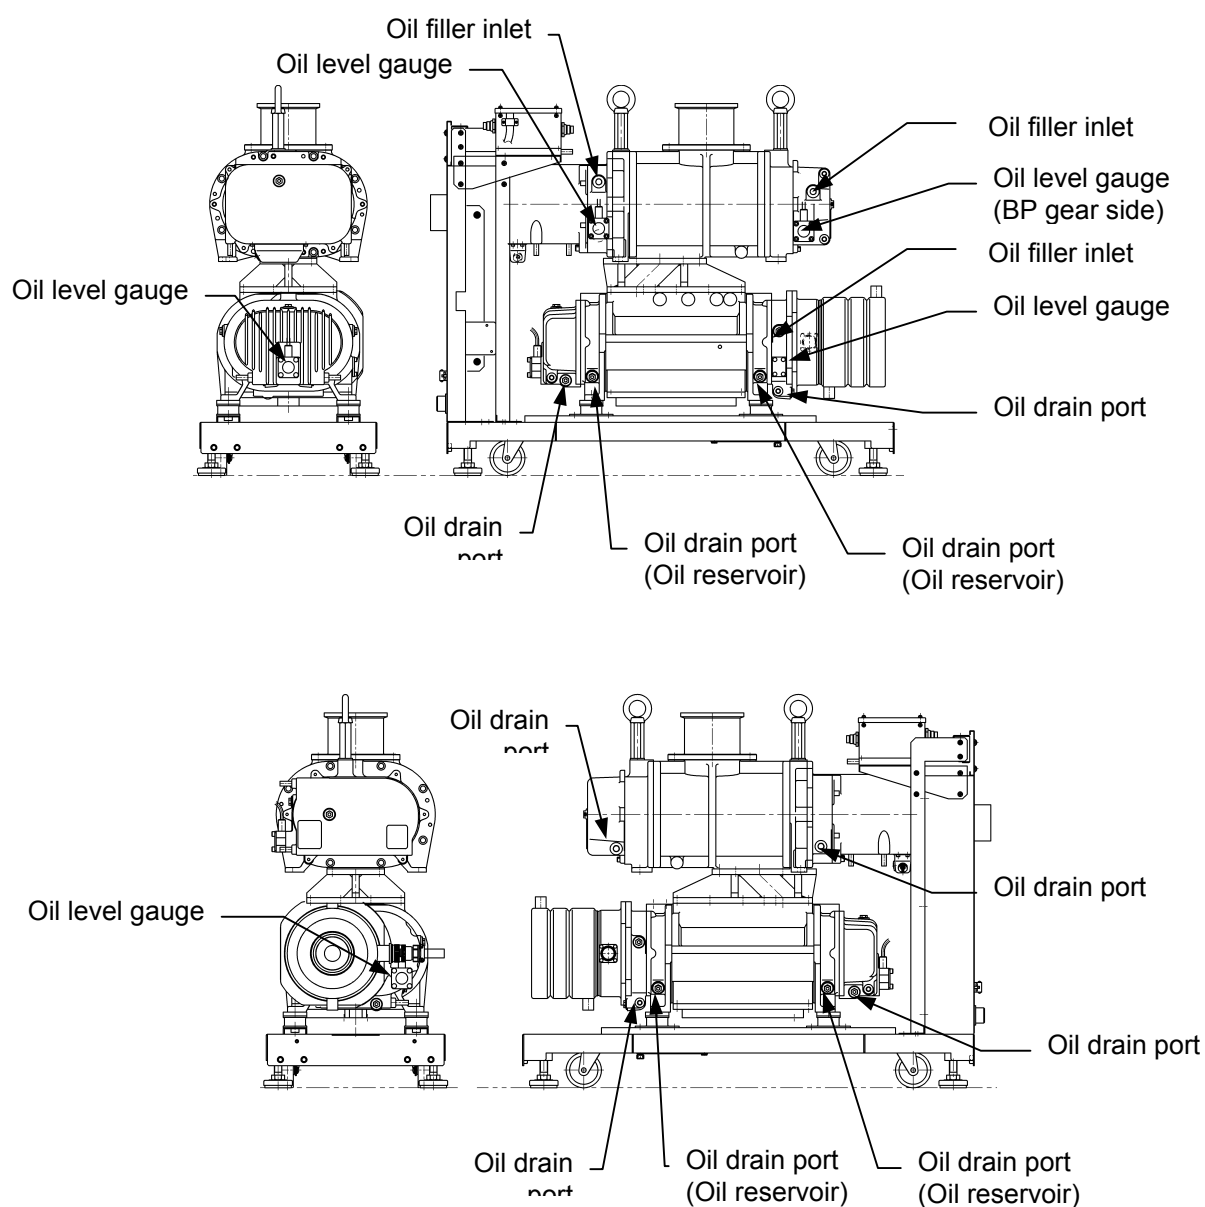

Fig. 8.2 Oil filler inlet, oil level gauge, and oil drain port positions
- (2) After you have waited until the internal pump pressure returns to atmospheric (normal) pressure, remove the plug from the oil-filler inlet. (See Fig. 8.2)
- (3) Check the level through the window of the gauge. Then, add the oil so that the level is upper limit line (see Fig. 8.2 and 8.3).
- (5) Fit a waste oil container (PVC bag) to the bottom of the oil drain hole of the secondary reservoir and remove the drain plug. (See Fig.8.2)
- (6) When you have drained off the waste oil close the drain hole after you have checked that there are no depositions and fragments adhering to the O ring attached to the plug.
- (7) Please check the air leak after supplying lubricant oil.